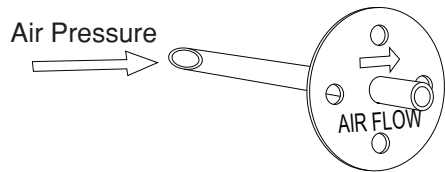
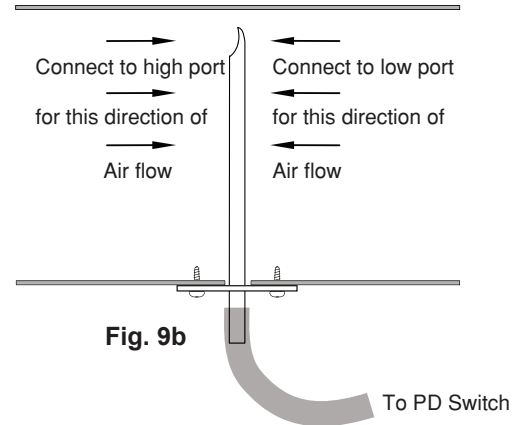

Fig. 9a
Fig. 9b
9.4 Insert the probe and fasten it's base to the duct using two sheet metal screws. The arrow visible on the probe flange indicates the air flow direction in the duct (i.e. the curved end of the probe has to face the air flow) Please see Fig. 9a and Fig. 9b.